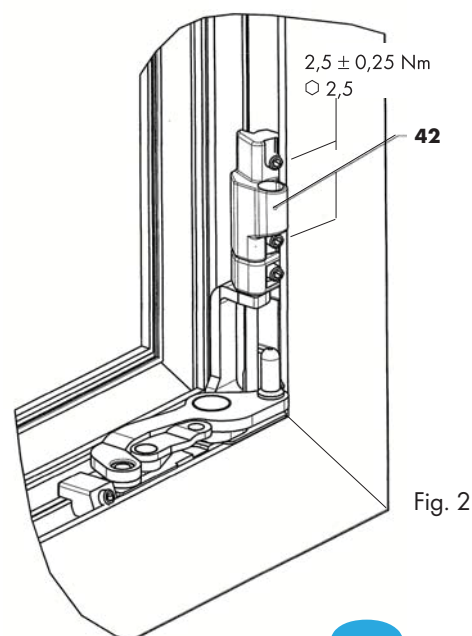

Fig. 2
1. Insert BSU A0040 right/left frame part (42) into the frame groove and position it on the axxent bottom hinge as shown in the adjacent diagram (fig. 2).
2. Tighten the grub screws of the BSU A0040 right/left frame part (42) with 2.5 ± 0.25 Nm.